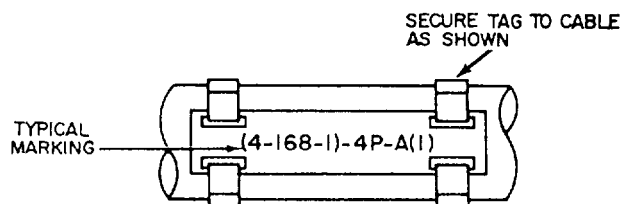

Figure 3-8.-Cable tag.
Metal tags embossed with the cable designation are used to identify all permanently installed shipboard electrical cables. These tags (fig. 3-8) are placed on cables as close as practicable to each point of connection, on both sides of decks, bulkheads, and other barriers to provide identification of the cables for maintenance and replacement.
(4-168-1)-4P-A(1) (fig. 3-8) identifies a 450-volt power cable supplied from a power distribution panel on the fourth deck at frame 168 starboard. The letter A indicates that this is the first cable from the panel, and the (1) indicates that it is the first section of a power main with more than one section.